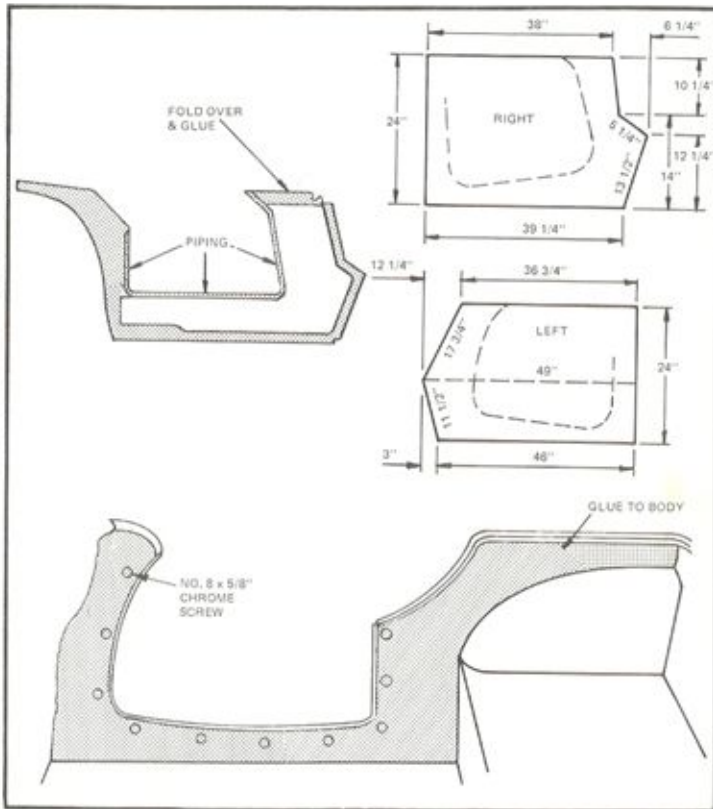

Figure 78
- Side sections fit around the door openings, extend forward to the firewall and back over the wheel hump. They must be mounted on a piece of heavy cardboard or paneling before they can be installed. This is due to the configuration of the body around the doors. As a basic pattern cut a piece of cardboard to the sizes indicated. (Figure 78)